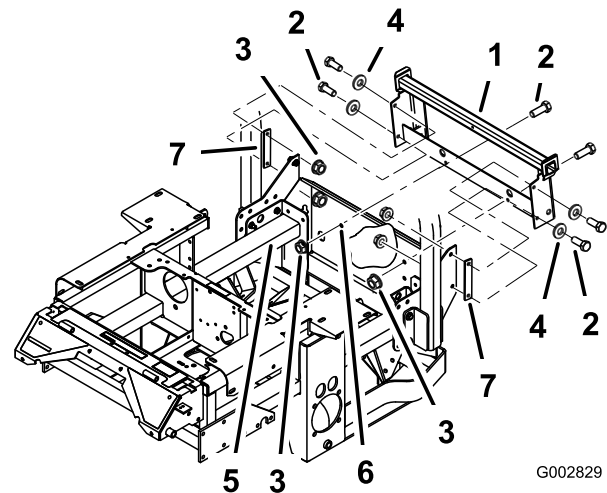

Figure 9
6. When installing the bagger mounting bracket to the side brackets use the spacer provided in this kit (Figure 9).